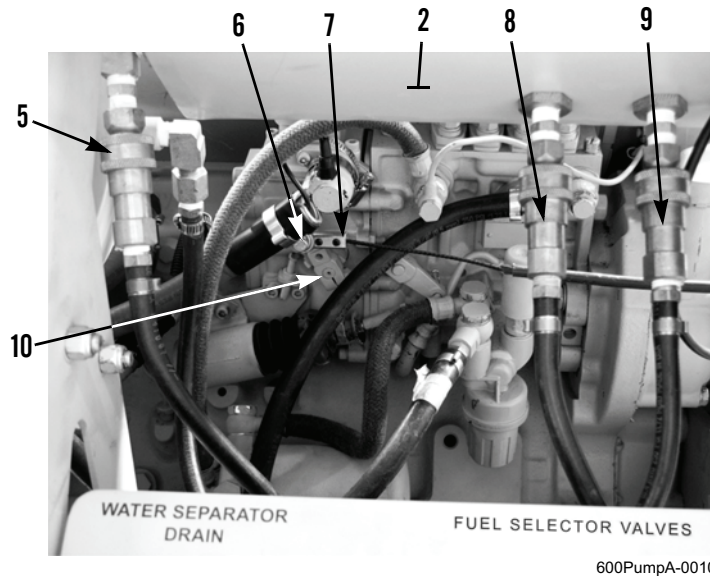

Figure 3. Hose Couplers and Throttle Linkage.
3. Disconnect hose coupler (Figure 3, Item 5) from fitting on side of control panel box (Figure 3, Item 2).
4. Disconnect hose coupler (Figure 3, Item 8) from fitting on bottom of control panel box (Figure 3, Item 2).
5. Disconnect hose coupler (Figure 3, Item 9) from fitting on bottom of control panel box (Figure 3, Item 2).
6. Remove bolt (Figure 3, Item 6) and disconnect throttle linkage cable (Figure 3, Item 7) from fuel injector pump linkage (Figure 3, Item 10).